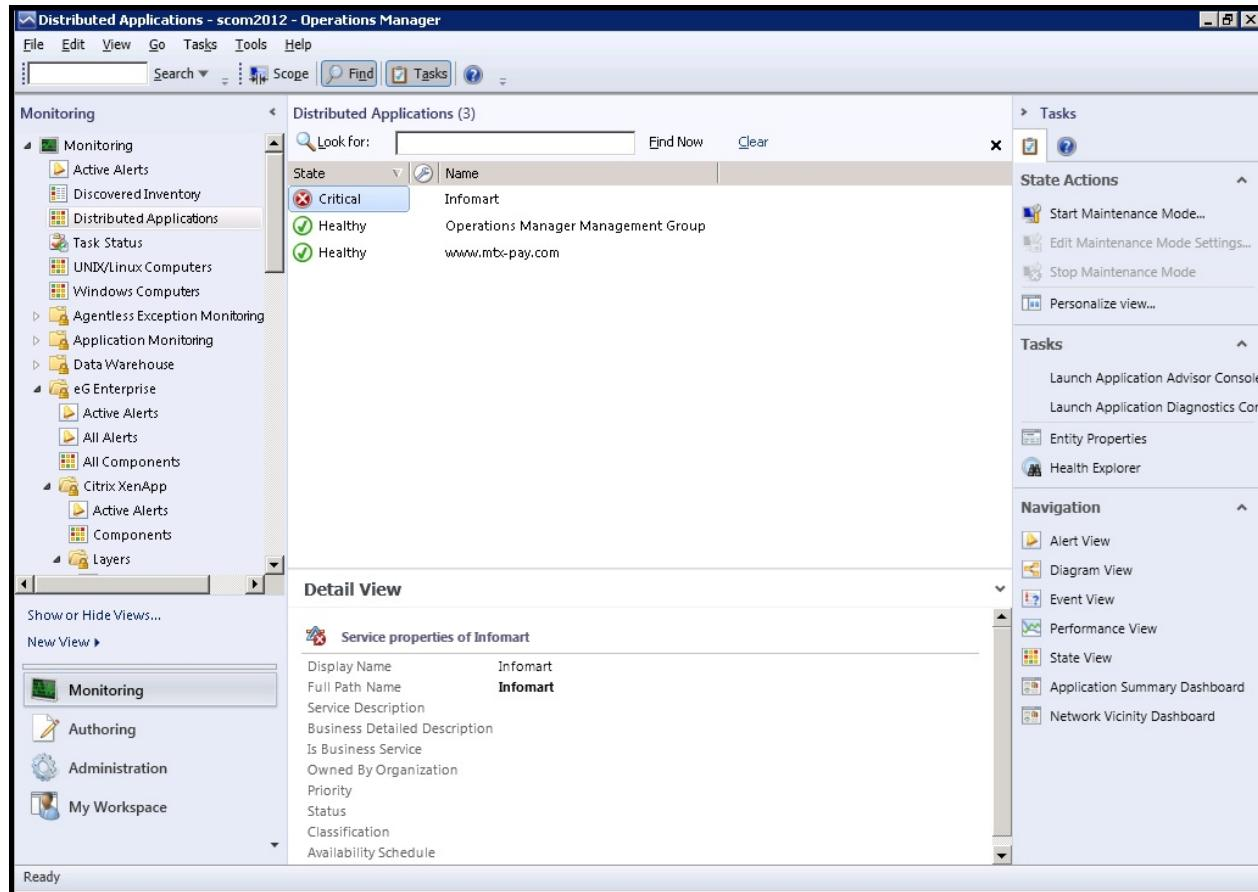
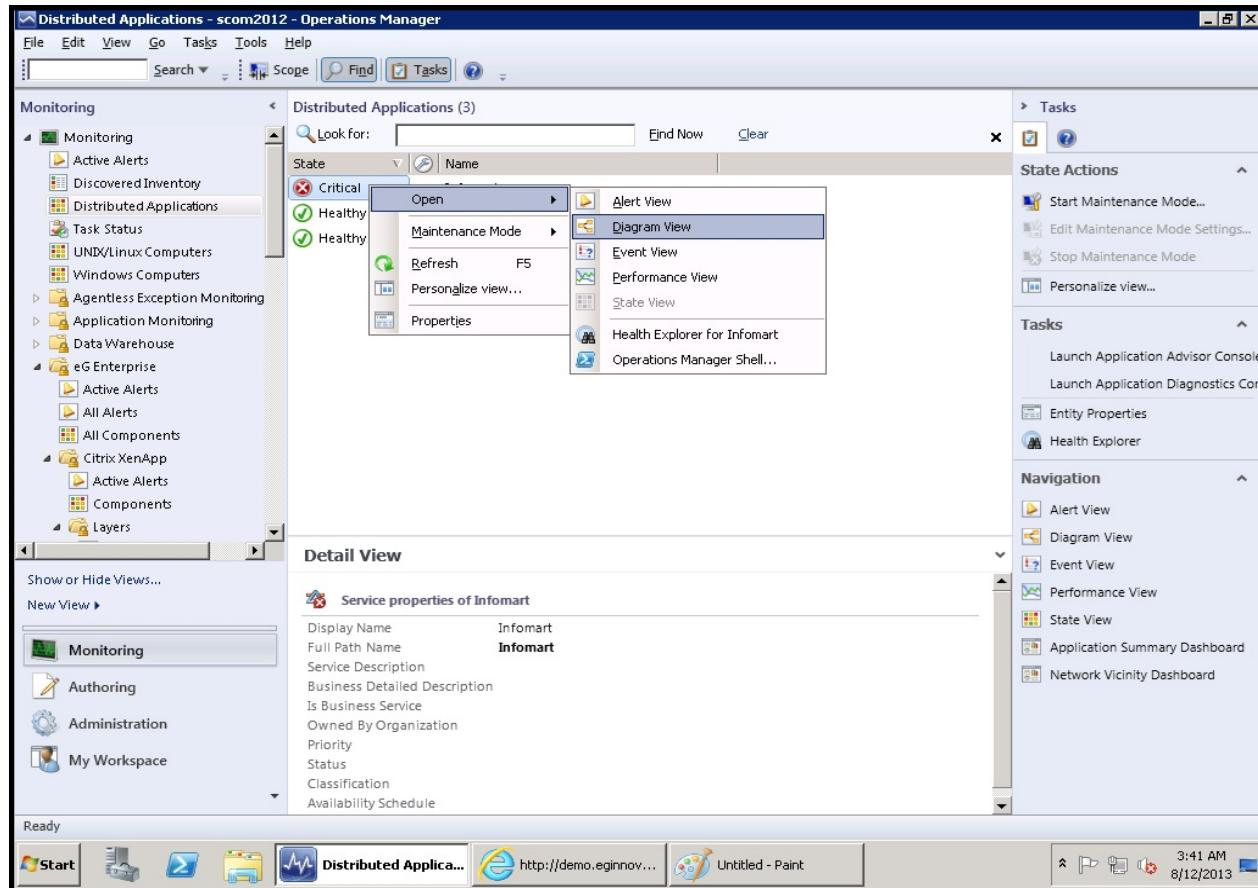

Figure 4.38: Viewing the state of the Infomart distributed application in the Monitoring mode
Figure 4.39: Accessing the topology map of the *Infomart* application in the Monitoring mode
13. With that, the topology of the distributed application has been fully configured. Once eG Enterprise is integrated with SCOM, the SCOM connector updates the state of the distributed application and its member components based on state computations performed in eG. To view the current state of the *Infomart* application, move to the **Monitoring** view, by clicking on the **Monitoring** tab page indicated by Figure 4.38. Then, click on the **Distributed Applications** sub-node in the **Monitoring** tree-structure in the left panel of Figure 4.38.
14. The right panel of Figure 4.38 will then display all the **Distributed Applications** that have been configured and their current state. From Figure 4.38, it is evident that the *Infomart* application is in a **Critical** state. To know which component engaged in the delivery of the *Infomart* application is responsible for this **Critical** problem, view the topology map of the *Infomart* application. For this, right-click on the **State** of that application (which is currently, **Critical**), and follow the menu sequence: Open -> Diagram View (see Figure 4.39).